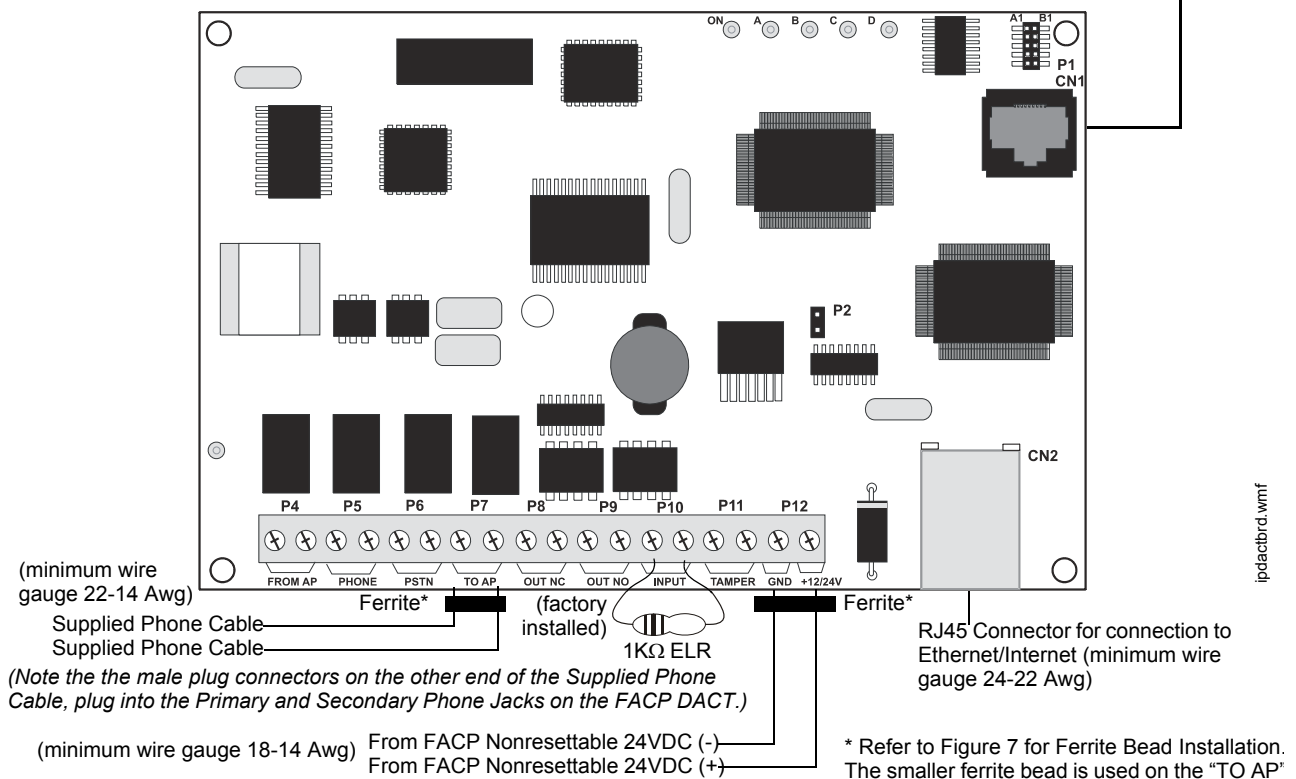
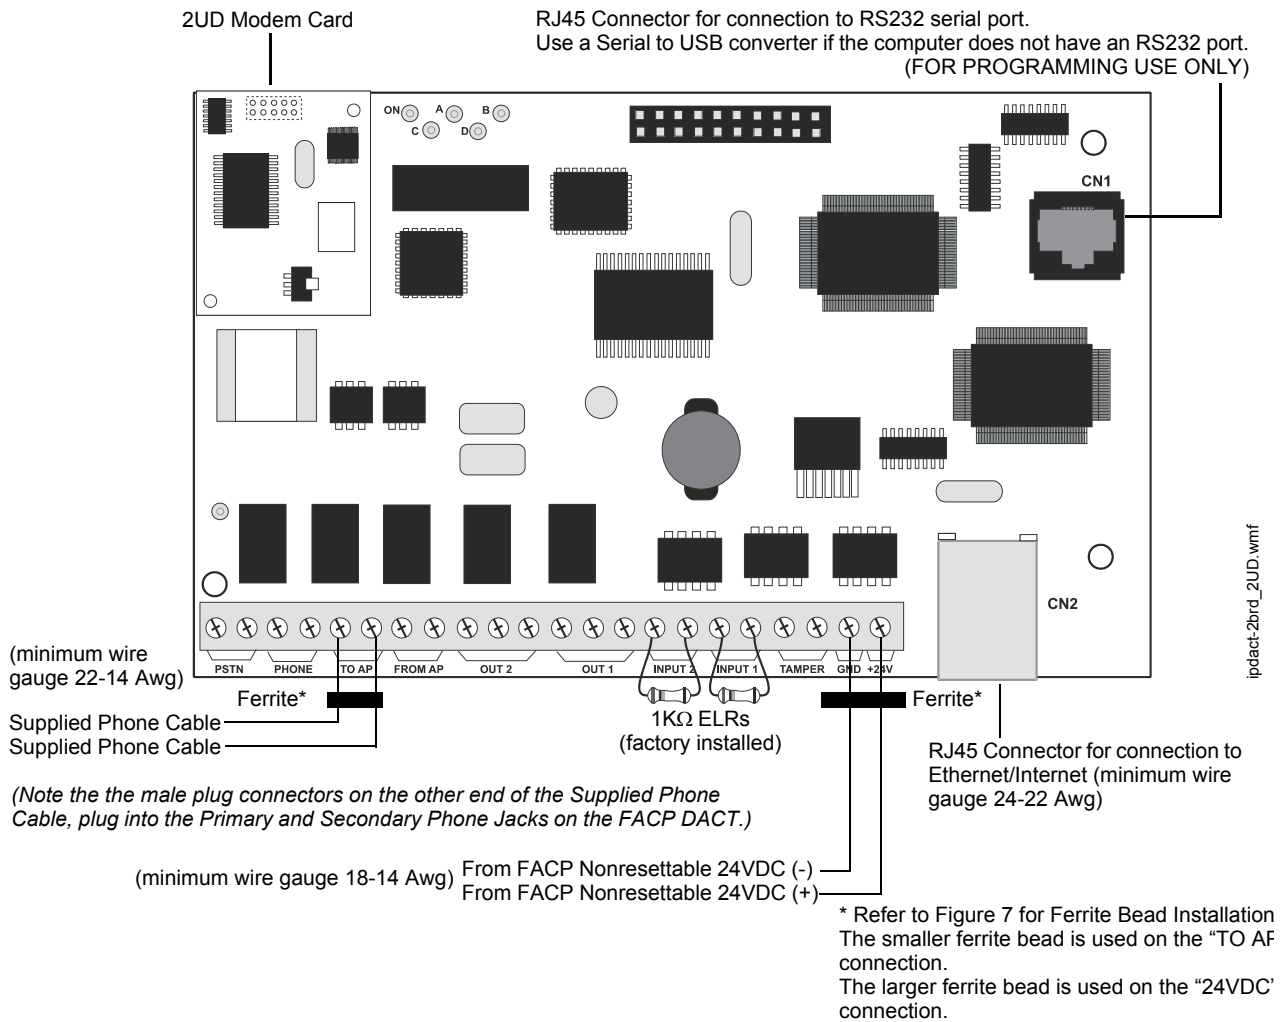
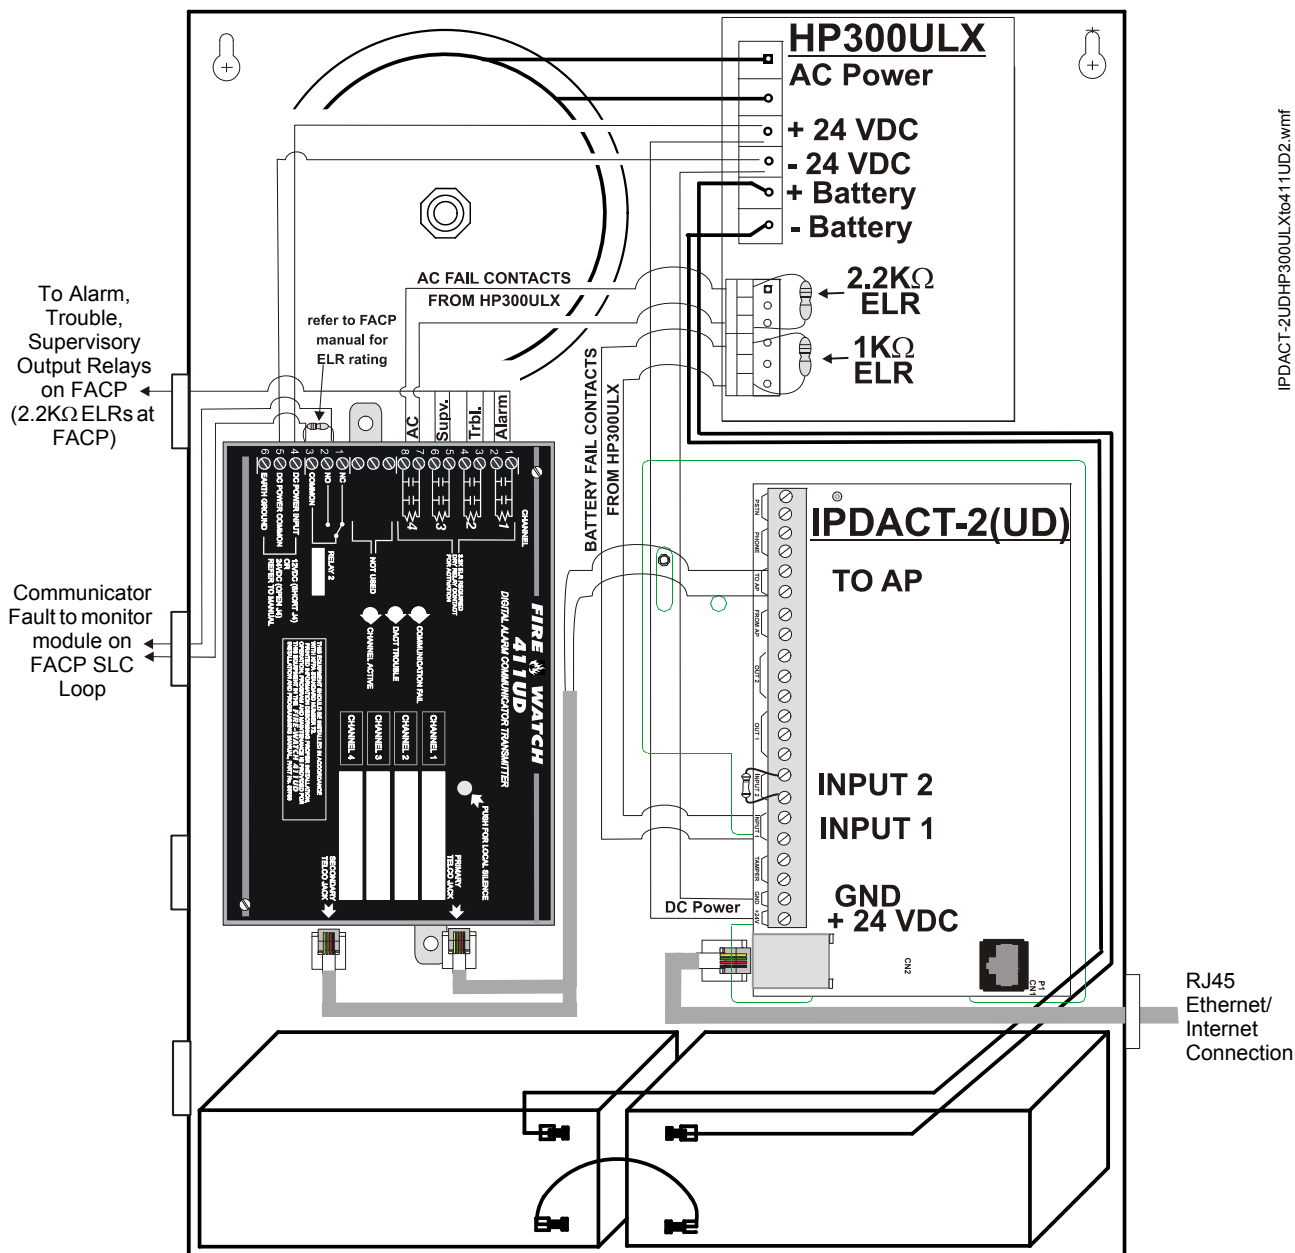

Figure 5 IPDACT Wiring
Figure 6 IPDACT-2 and IPDACT-2UD Wiring
Figure 19 Wiring IPDACT-2 or IPDACT-2UD to 411/411UD and HP300ULX
Figure 5 and Figure 6 detail the connections that must be made between the IPDACT Series and the FACP.
4. Wire the other end of the supplied phone line cable to the **TO AP** terminals as illustrated in Figures 5, 6, 10 and 11 of this document.
7. Refer to the appropriate FACP manual for power specifications and wiring details and to Figures 5 and 6 in this document for IPDACT connection details.
4. Wire the other end of the supplied phone line cable to the **TO AP** terminals of the IPDACT Series as illustrated in Figure 14 (IPDACT) or Figure 15 (IPDACT-2/UD) on the following pages and in Figures 5 or 6 of this document.
9. Refer to the appropriate FACP manual for power specifications and wiring details and to Figures 5 or 6 in this document for IPDACT connection details.
Refer to Figure 18 on page 18 (IPDACT) or Figure 19 on page 19 (IPDACT-2/UD) for wiring details.
3. Wire the other end of the supplied phone line cable to the **TO AP** terminals of the IPDACT Series as illustrated in Figure 18 on page 18 for the IPDACT or Figure 19 on page 19 for the IPDACT-2 and IPDACT-2UD and in Figures 5 or 6 of this document.
4. Connect Nonresettable 24 VDC power from the HP300ULX to the power terminals on the IPDACT and to the power terminals on the 411/411UD as illustrated in Figure 18 or Figure 19.